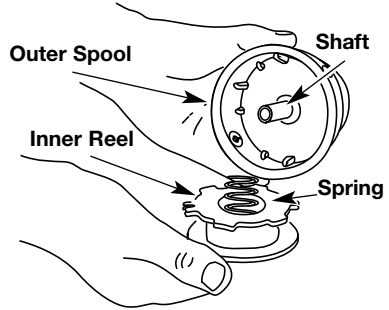

Fig. 13
2. Remove the inner reel from the outer spool (Fig. 13).
3. Remove spring from the inner reel (Fig. 13).
2. Remove the old inner reel from the outer spool (Fig. 13), Pg. 15.
3. Remove the spring from the old inner reel (Fig. 13), Pg. 15.